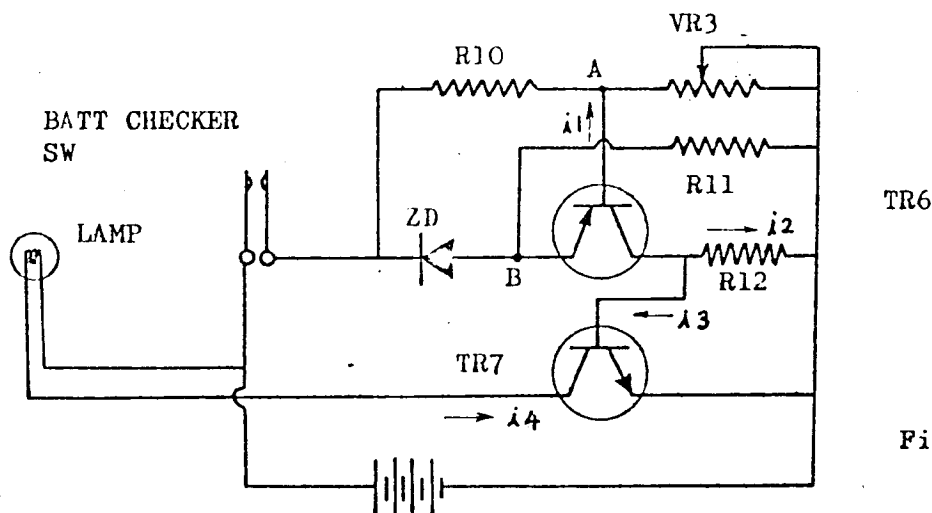

Fig. 2-29
By pushing in the BATT checker button, the battery life can be checked easily; If the indicator does not glow, the battery is out of use. Battery checker circuit is shown in Fig. 2-29.
As a sensor for checking the battery out-put, resistors R10, R11, R12 and a zener diode (ZD) form a bridge. Two points A and B on the bridge are connected to the base and emitter of TR6 respectively, as shown in Fig. 2-29.